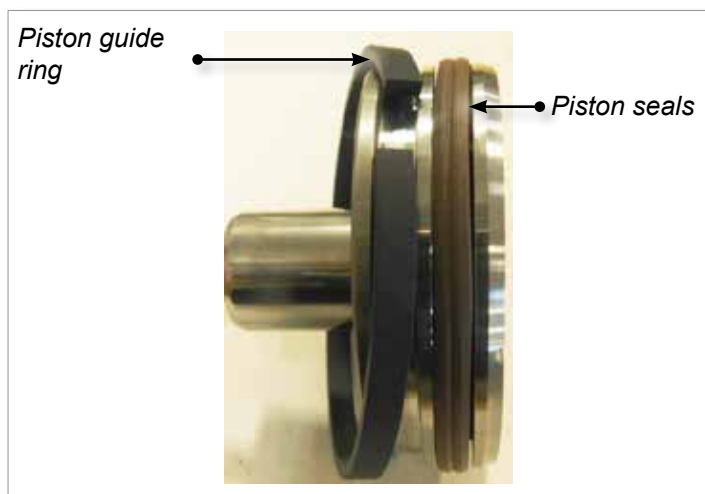

Figure 4-18 Install piston seals and guide ring
3. Install the two piston seals and the piston guide ring. See Figure 4-18.